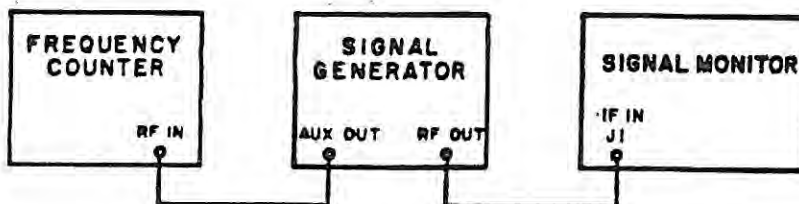

Figure A-6. Test Setup, 21.4 MHz IF Amplifier Touch-Up Alignment
- (1) Connect the equipment as shown in **Figure A-6**.
- (2) Set the Signal Monitor front panel controls as follows:
- (3) After the marker is centered on the CRT, turn it off.
- (4) Set the signal generator to 21.4 MHz at a level to give a pip at about 3/4 scale.
- (5) Tune the signal generator through the range of 20.4 MHz to 22.4 MHz observing for symmetry, and the minimum and maximum pip heights.